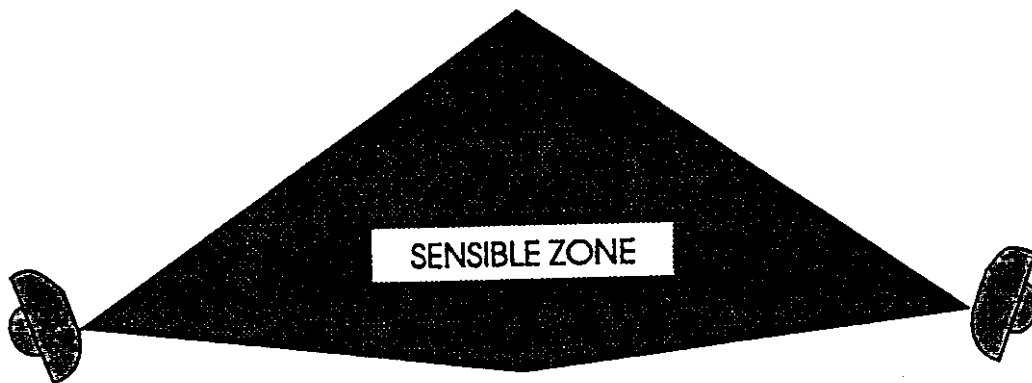

FIG. 5 - Sensible zone distortion for bad alignment
- **An imperfect alignment between transmitter and receiver provokes, a distortion of the shape of the protective field which is set up, as well as an obvious reduction of the signal received. This fact becomes clearly apparent when considering that the protection field is determined, in the first approximation, by the combination of the principal radiation lobes of the two antennae, which, if perfectly aligned, will establish a regular and symmetrical protection field in the two halves of the section, if badly aligned they will cause asymmetry and a more probable interception of obstacles (even though apparently outside the sensitive field). (FIG. 5)**